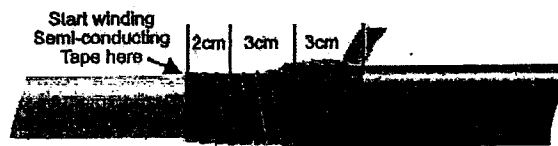

Figure 28.
8. Using the Semi-Conductive Tape provided, starting 2cm in front of the end of the Outer Copper Screen Wires (or 5cm in front of the Black PVC Outer Sheath), stretch and wrap the tape back over the wires and 3cm over the Black PVC with 50% overlap, securing the Outer Copper Screen Wires in place. This should use approx 50cm of the tape. (Figure 28)